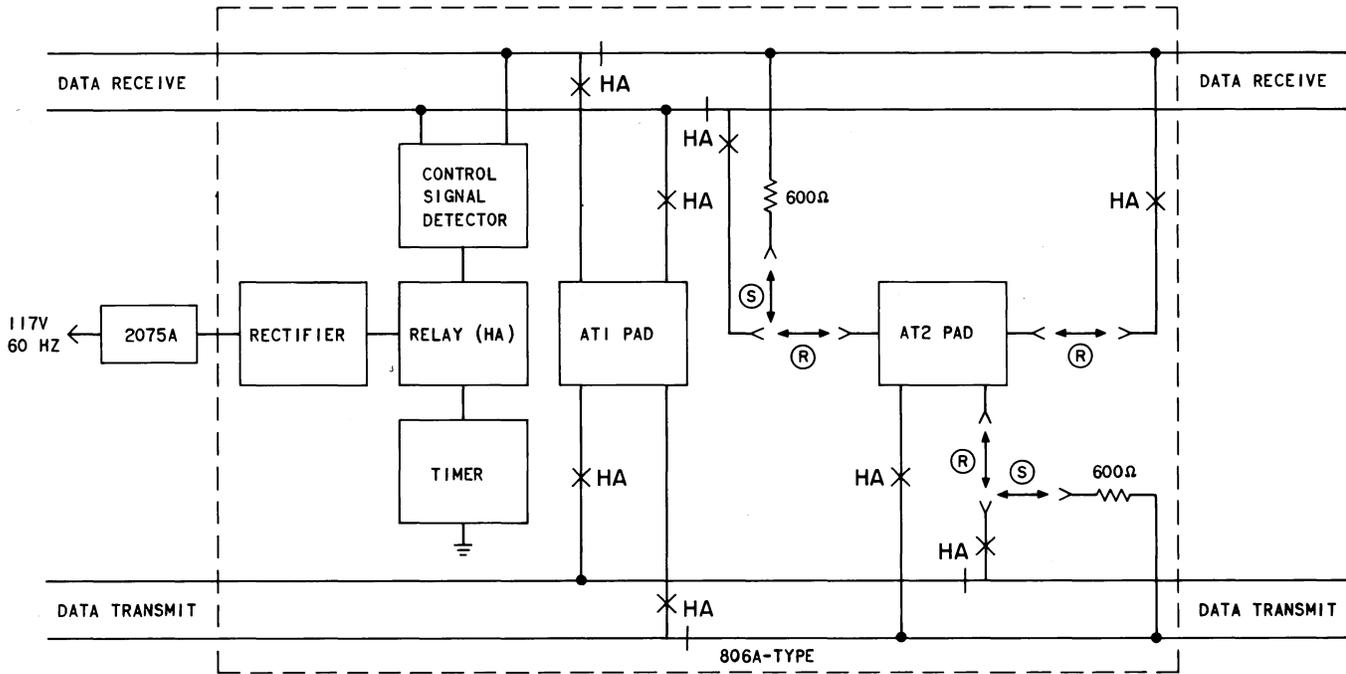

Fig. 4—Remote Operation of DAS 806A-Type
3.03 The 806A1 is controlled by 48 volts dc while the 806A2 and A3 are ac controlled. In the dc set, current from the line is fed through the HA relay coil to initiate the loopback (Fig. 4). This current must be maintained to hold the loopback condition. The 806A2 is remotely actuated by 2800-Hz control signal (10 second minimum) while the 806A3 responds to a 2400-Hz signal. These ac sets remain in the loopback condition as long as the control signal is present, unless they are